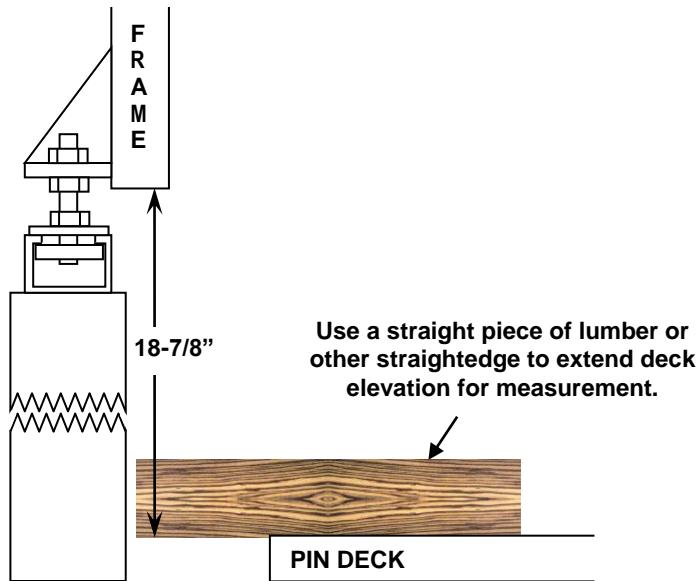

Figure 4.2-1
1. Verify that the vertical distance from the pin deck to the underside of the frame is 18-7/8 ± 1/8 inches at all four corners. This measurement should be as nearly the same as possible at each corner, i.e. not 18-3/4 inches at one corner and 19 inches at another, although both numbers are within limits. A level or straight edge can be used to help make this measurement (see Figure 4.2-1). Making adjustments may also require adjustment of the back end's large leveling jack screws.